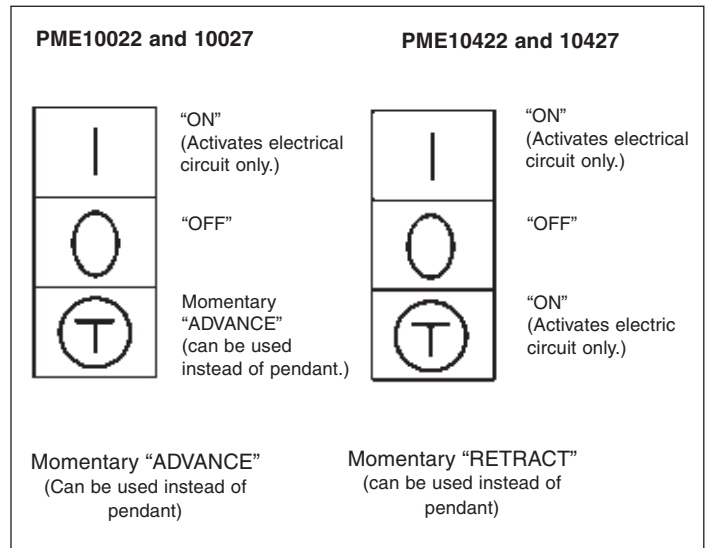

Figure 5, Pump Switch Positions
- Be sure the pump switch is “OFF.” (See Figure 5.)